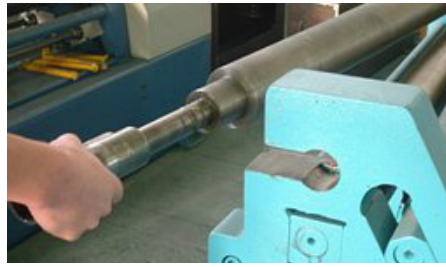

Fig. 21: Swing the top roller
Step 4: Swing top roller (Fig. 21).